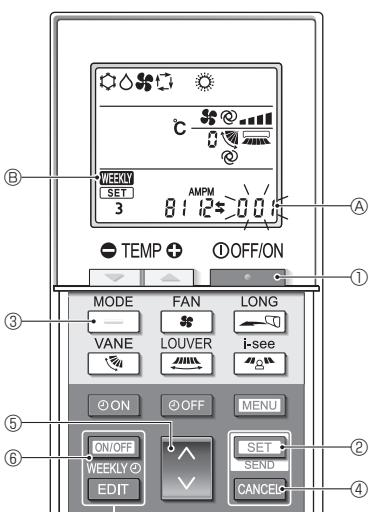

Fig. 5-13
5.10.8. How to disable Auto mode operation (Fig. 5-13)
- Press the **OFF/ON** button ① to stop the air conditioner.
- If the weekly timer is enabled, press the **ON/OFF** button ⑥ to disable the timer. (**WEEKLY** Ⓑ disappears.)
- Press the **SET** button ② for 5 seconds.
- Completing the settings (Fig. 5-13)